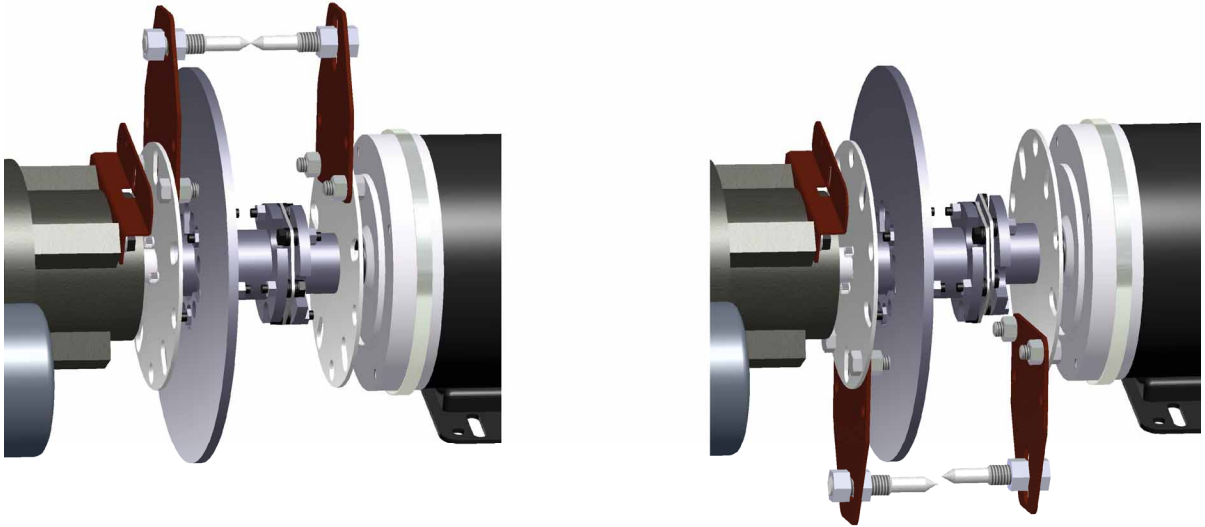

Figure 2-61. Vertical offset.
49. (Vertical plane parallel misalignment) Rotate the shaft between the 0° and 180° positions again. This time, correct the vertical offset (Figure 2-61) by moving the torque arm bolt up or down (Figure 2-62) or by placing shims under all four feet of the generator for an adjustment of about half of the observed offset.